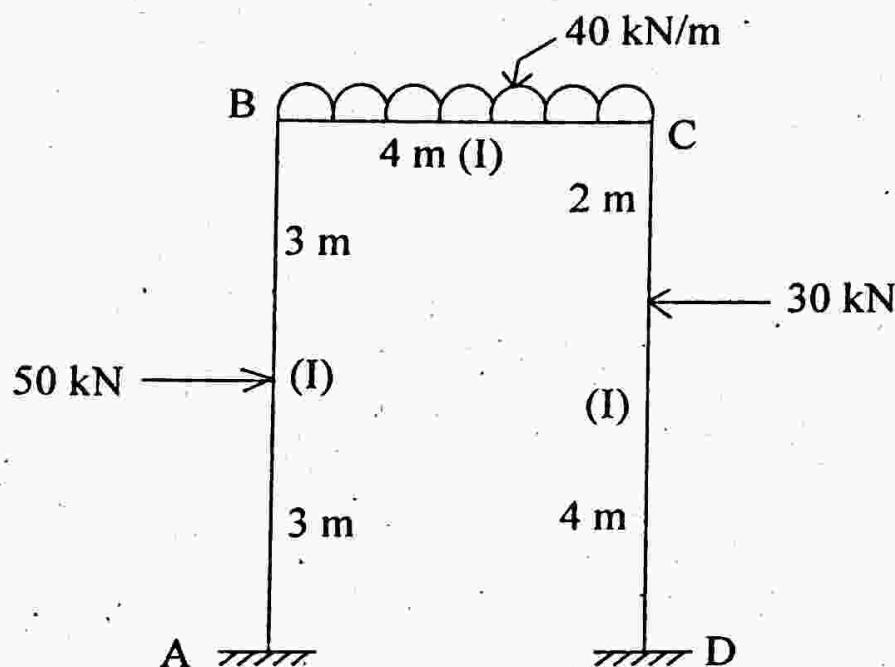

Fig. 4
4. Analyse the portal frame in Fig. 4 by moment distribution method. Draw B.M.D. 13